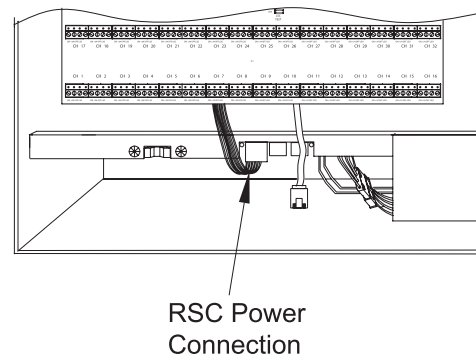

Figure 7. RSC Power Connection
2. Ensure that there are no loose wires or exposed wires that could short. Plug in the power wire (white plastic connector with six wires attached) that comes out of the top of the CKT logic panel into the Relay Stack Controller Card (RSC) located at the bottom of the enclosure. This connection should be made to the left most terminal on the RSC. See Figure 7 below. The controller display should power up and display the MAIN SCREEN.
3. Plug in the power wire (white plastic connector with six wires attached) that comes out of the top of CKT logic panel into the Relay Stack Controller Card (RSC) located at the bottom of the enclosure. This connection should be made to the left most terminal on the RSC. See Figure 7 below. The controller display should power up and display the MAIN SCREEN.